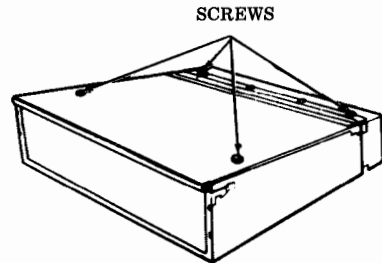

Fig. 43
Step 2 — Remove two captive screws and two rear screws (Fig. 43).